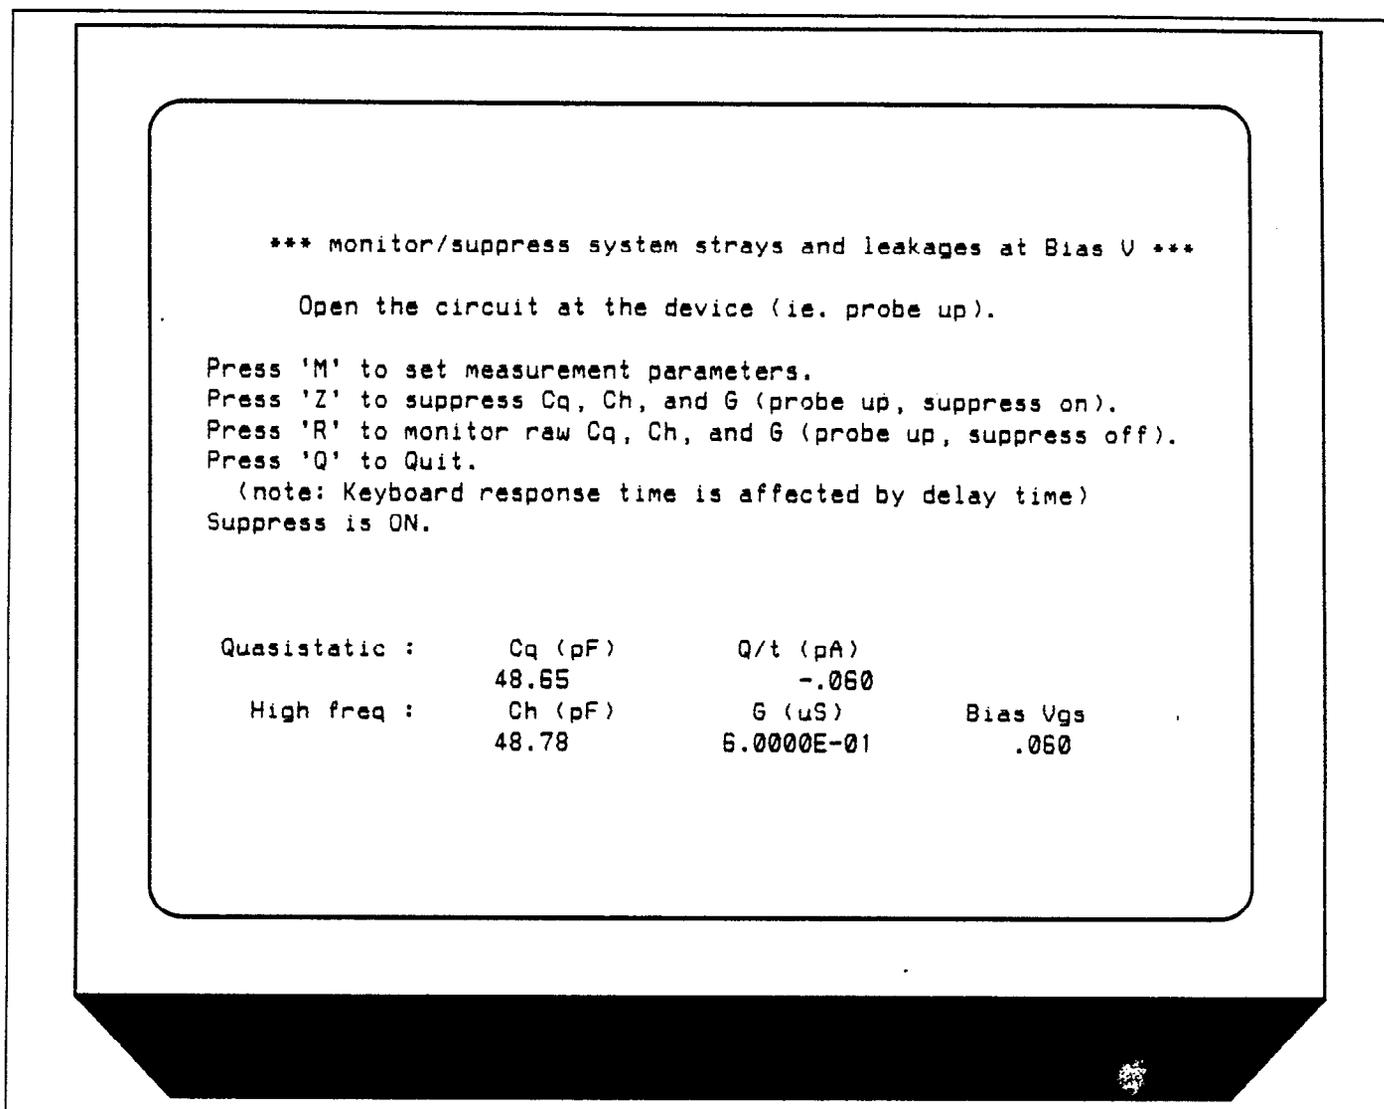

Figure 3-6. Monitor Leakage Menu
4. You will then see a display similar to the one shown in Figure 3-6. The values shown are representative of what to expect in a typical system, but your values may be somewhat different.
2. Select option 2, Monitor/Suppress System Strays and Leakages. You will then see a display similar to the one shown in Figure 3-6. The values shown here are representative of what to expect in a typical system, but yours could be somewhat different.